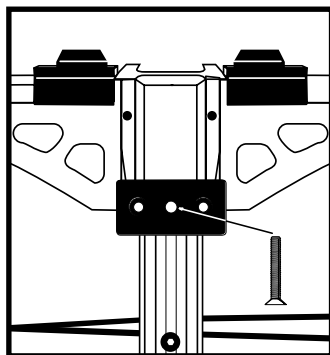

Figure 5C
2. Attach the Dovetail Mount Bracket using the 1" long flat head screw provided. Figure 5C.